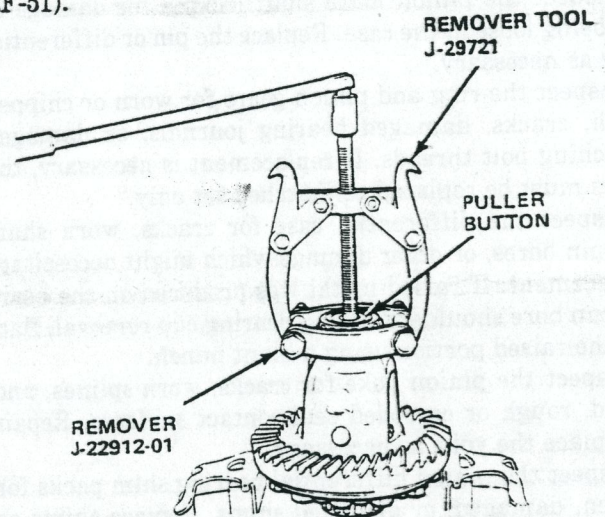

Fig. 2F-51 Differential Bearing Removal—Model 60 Axle
- (2) Position chamfered edges of remover tool between bearing inner race and case.
- (3) Tighten remover tool bolts until chamfered edges of tool are well under bearing race.
- (4) Install puller button in case bore.
- (5) Install Puller J-22888 on Remover Tool J-22912-01 and center puller forcing screw in puller button (fig. 2F-51).